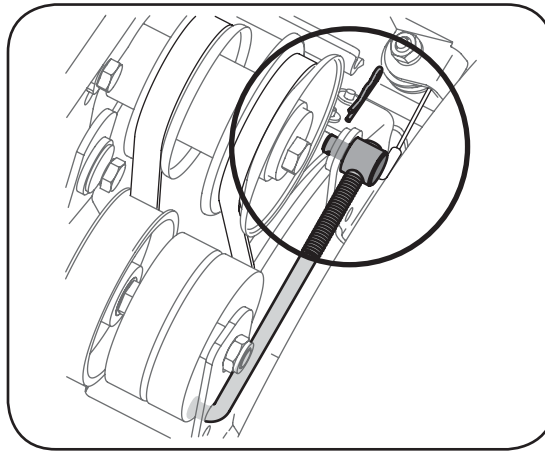

Figure 6-6
4. Remove the clip and flat washer from the ferrule in order to disconnect the auger idler rod from the brake bracket assembly. See Figure 6-6.
- To adjust, disconnect ferrule from brake bracket assembly and thread ferrule in (towards idler) to increase tension on belt, and out to decrease tension. See Figure 6-6.